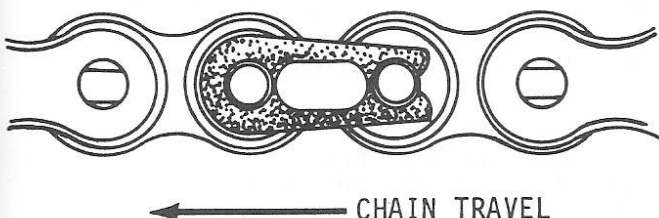

Fig. Y4-17—Install the master link clip as shown. Note that closed end of clip should be toward direction of chain travel.
**OVERHAUL.** The drive chain can be removed after disconnecting the chain at the master link. When installing chain, be sure the master link clip is installed as shown in Fig. Y4-17.